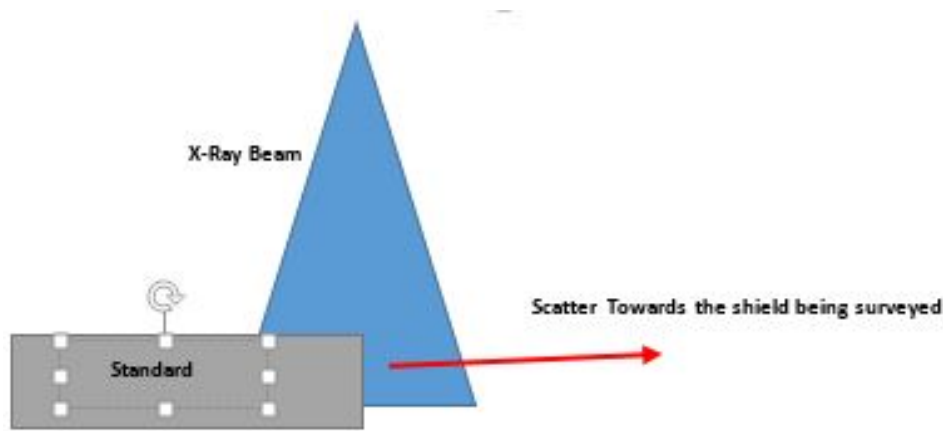

Figure 2-Direction of radiation scatter when standard is centered in the beam path
7. Surveys of the Load Shield or Unload Shield are done with a whole round water standard with its end half-way into the beam with empty half toward the shield being surveyed (**Figure 2**).